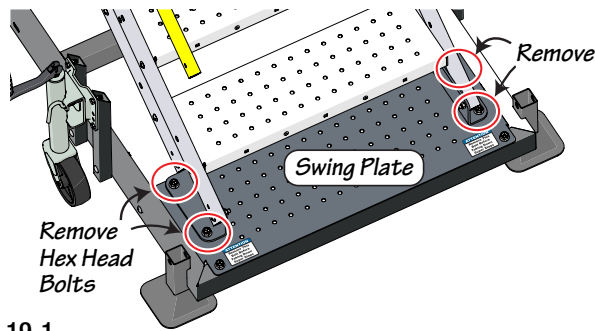

Fig. 19-1
- Remove the lowest (module 1) from the transport pallet. Remove the 4 hex bolts from the swing plate/transport pallet as shown in Fig 19-1.